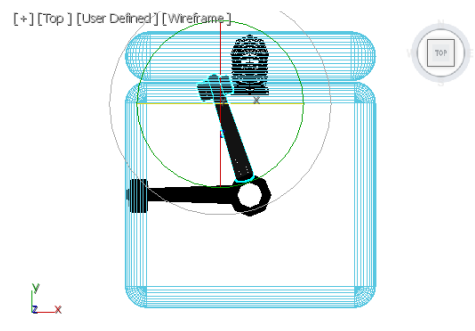
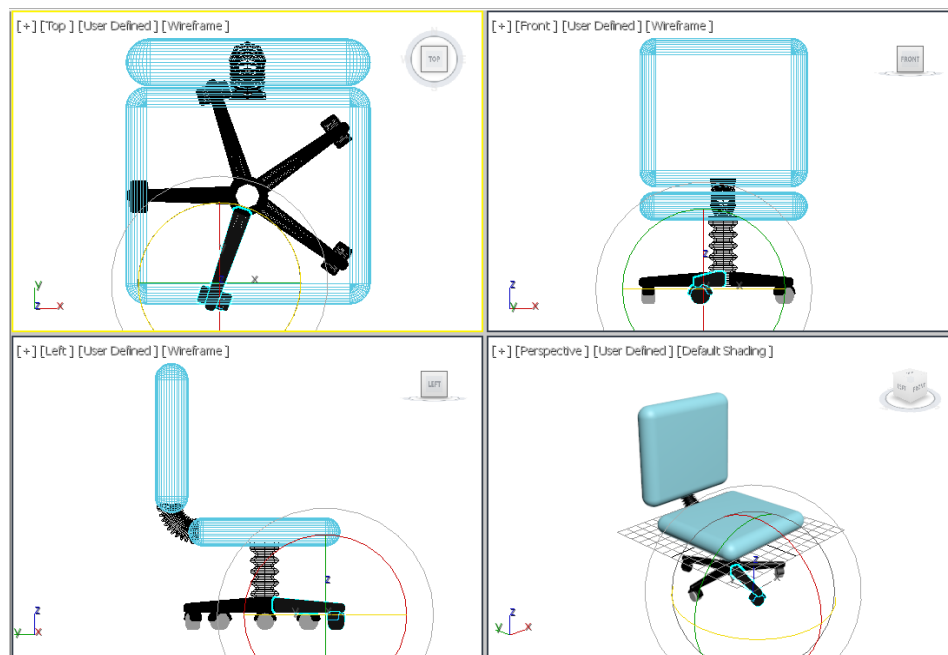

Figure 3-45 The f_leg01 group rotated about **-72** degrees with respect to the working pivot point
Figure 3-46 The *f_leg002*, *f_leg003*, *f_leg004*, and *f_leg005* in viewports
22. Move the cursor over the Z-axis that is blue in color; it gets highlighted in yellow color. Now, press and hold the SHIFT key as well as the left mouse button and drag the cursor until the value in the **Z** spinner in the coordinate display becomes about **-72**, refer to Figure 3-45. Release the left mouse button; the **Clone Options** dialog box is displayed. Make sure that the **Copy** radio button is selected. Set **4** in the **Number of Copies** spinner. Choose the **OK** button; f_leg002 , f_leg003 , f_leg004 , and f_leg005 are displayed in the viewports, as shown in Figure 3-46.